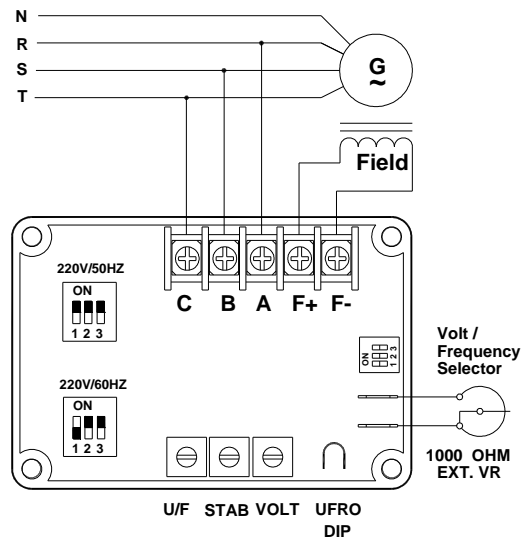
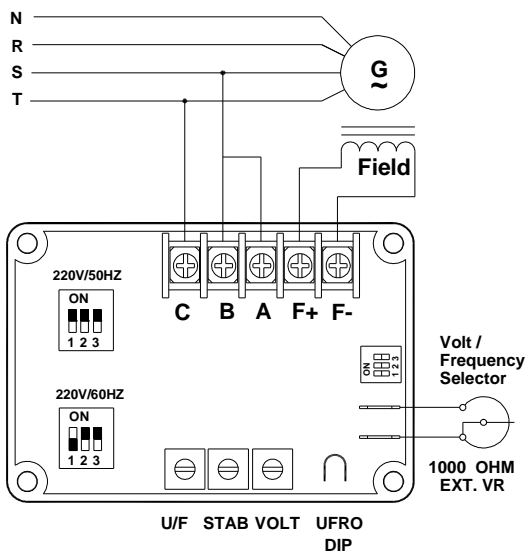

Figure 2
Figure 3
1. When the rated phase voltage of the generator is 220VAC, the input terminals B, C and sensing terminals A, C can join together (as show as Figure3. It's the original setting).or connect independent.(as show as Figure2).
B,C,F+,F- wires are not connected well.	Please refer to Figure 2 ~ Figure 5.